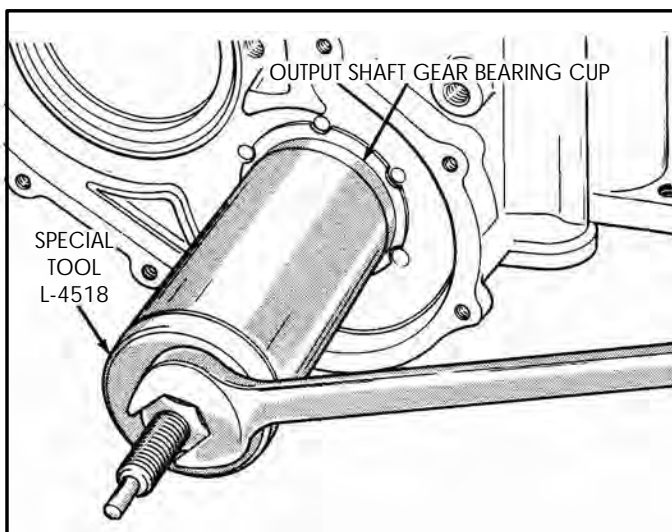

Figure 170
7. Remove the output shaft gear bearing cup from case using the special tool L-4518, as shown in Figure 170.